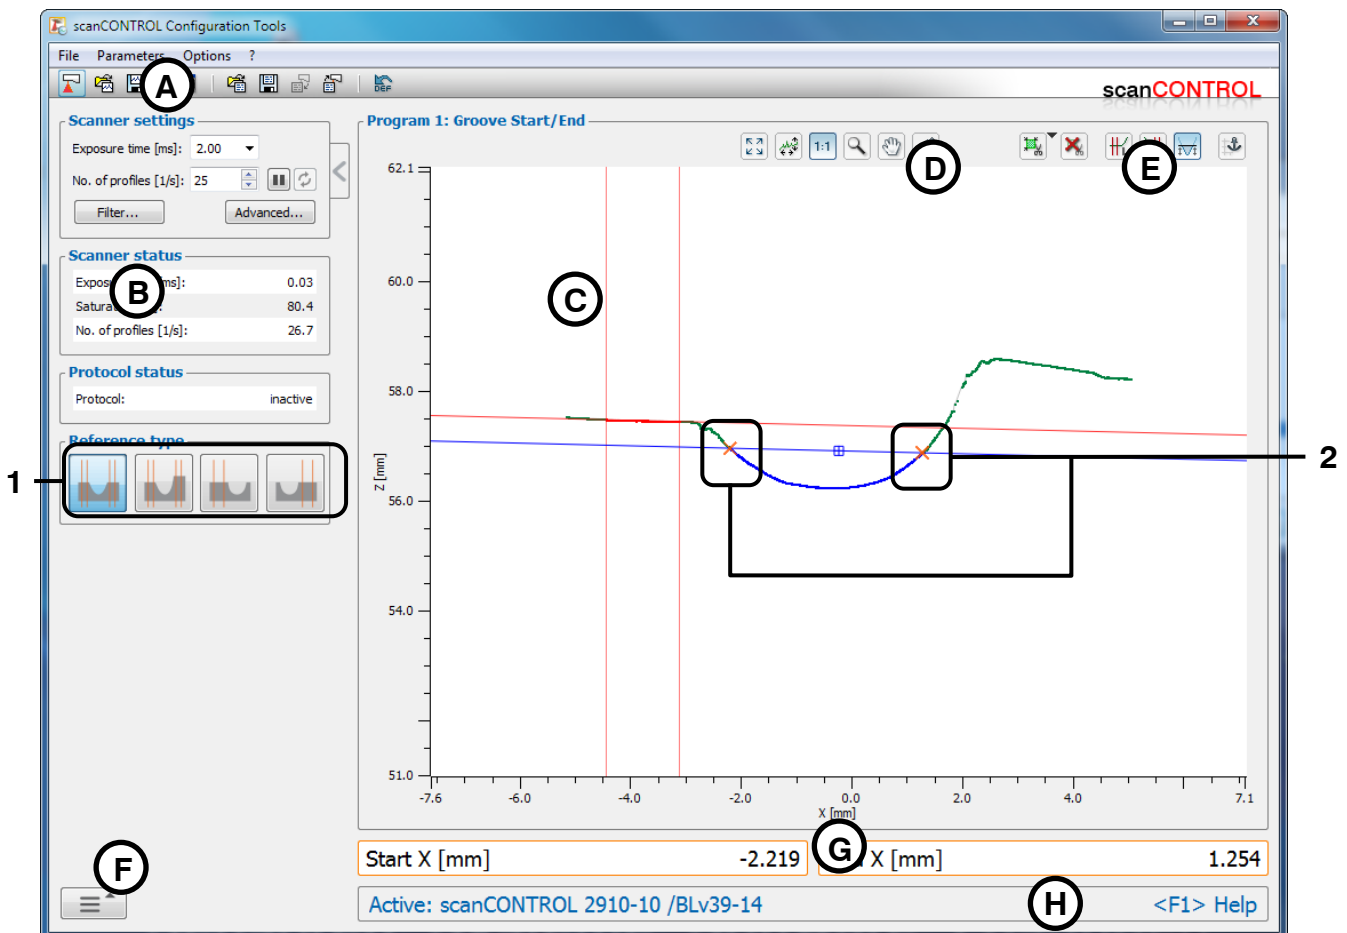

Fig. 4.31: "Groove Start/End" measuring program
- Define the type of the deepening (see Fig. 4.31 and Chapter 3.13.1):